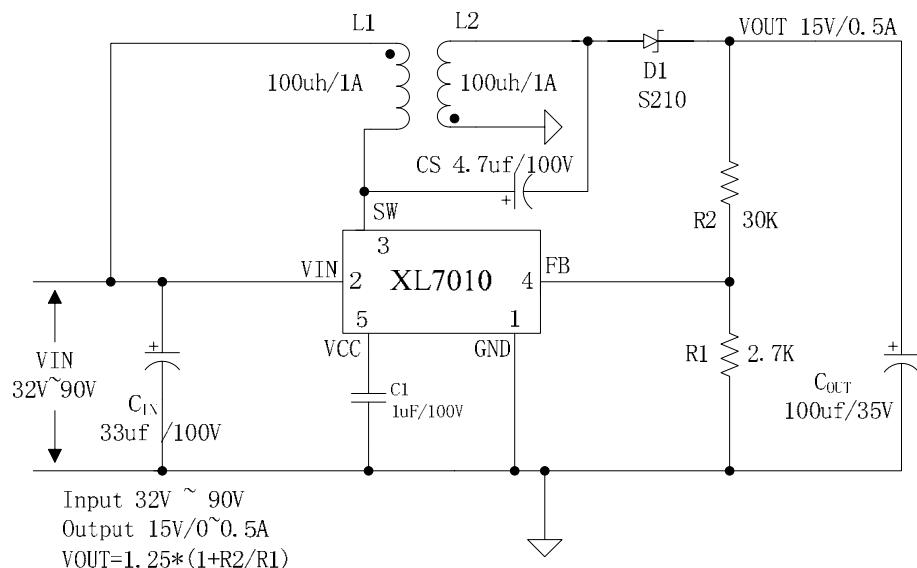

Figure4. XL7010 Typical Application Circuit
System parameters test circuit figure4
**Electrical Characteristics (DC Parameters test circuit figure4)**Vin = 48V, GND=0V, Vout=15V,Iout=0.1A; $T_a = 25^\circ C$  ; the others floating unless otherwise specified.